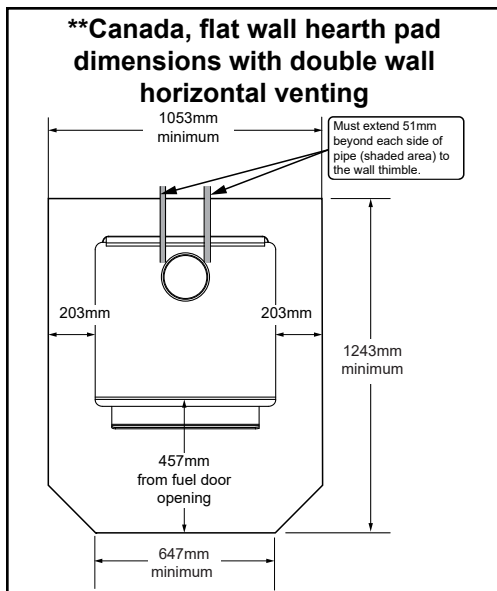

Figure 9.2 - **This dimension will vary depending installation.
In Canada, similar floor protection must be provided 18 inches (457mm) in front and 8 inches (203mm) from the sides and rear of the appliance unless the hearth pad is placed against the wall (**Figure 9.2**). Then the clearance may be reduced using double wall pipe and the **Clearance to Combustibles**.
***Exception:** Non-combustible floor protector must extend beneath the flue pipe when installed with horizontal venting and extend 2 inches (51mm) beyond each side (**Figure 9.2**).